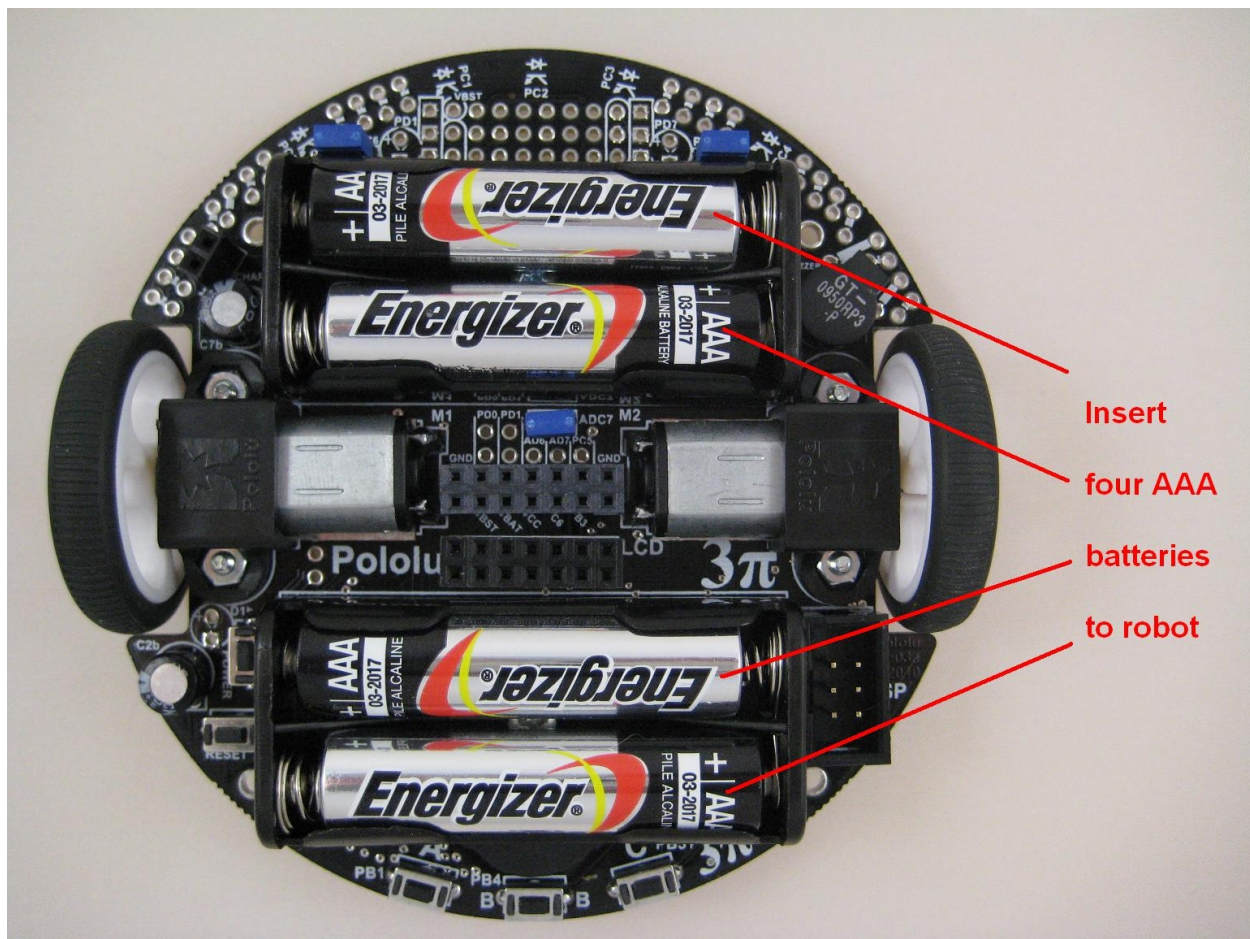

Figure 2
- Insert 4 AAA batteries to the robot as shown below in Figure 2: